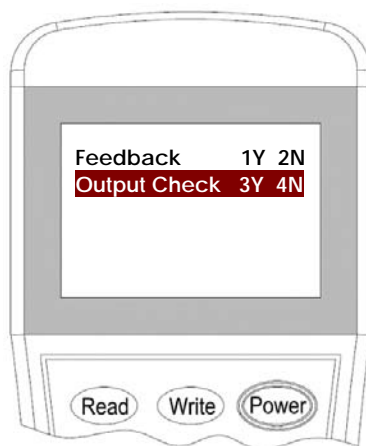

Figure 8
4. Input the **"3"** for **Check** mode then press **"Write"** to change the setting (Figure 8).